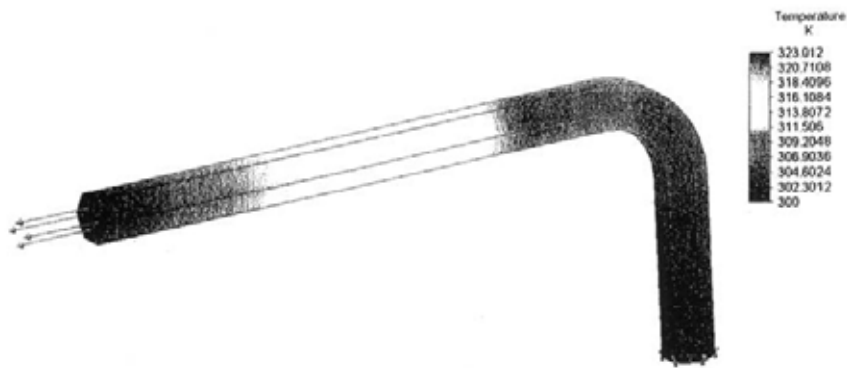

**Figure 1:** Original Model with forces
- 13.44** The Allen Wrench, shown in Figure 1, is exposed at one end to a temperature of  $300 \text{ K}$ , while the other end has a heat flux of  $10 \frac{\text{W}}{\text{m}^2}$ . Determine the temperature distribution throughout the wrench. It has a thermal conductivity of  $43.6 \frac{\text{W}}{\text{m} \cdot \text{K}}$  and a specific heat capacity of  $0.000486 \frac{\text{J}}{\text{g} \cdot \text{K}}$ .